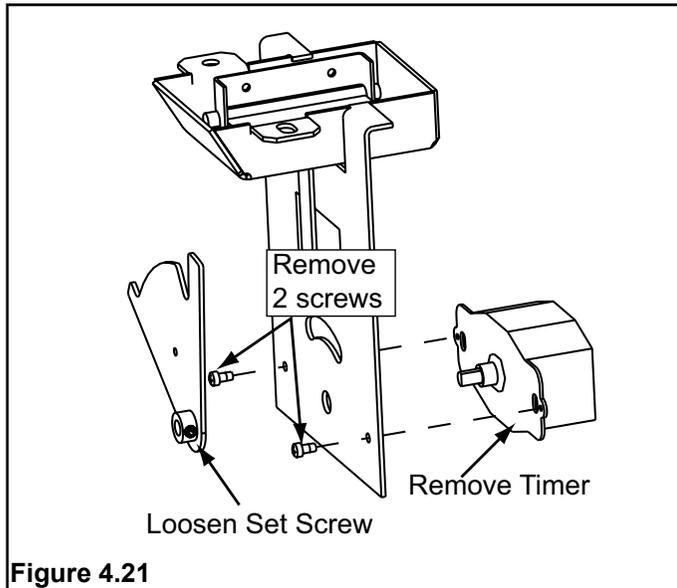

Figure 4.21
1. Loosen set screw on timer, remove 2 screws and remove timer. See Figure 4.21